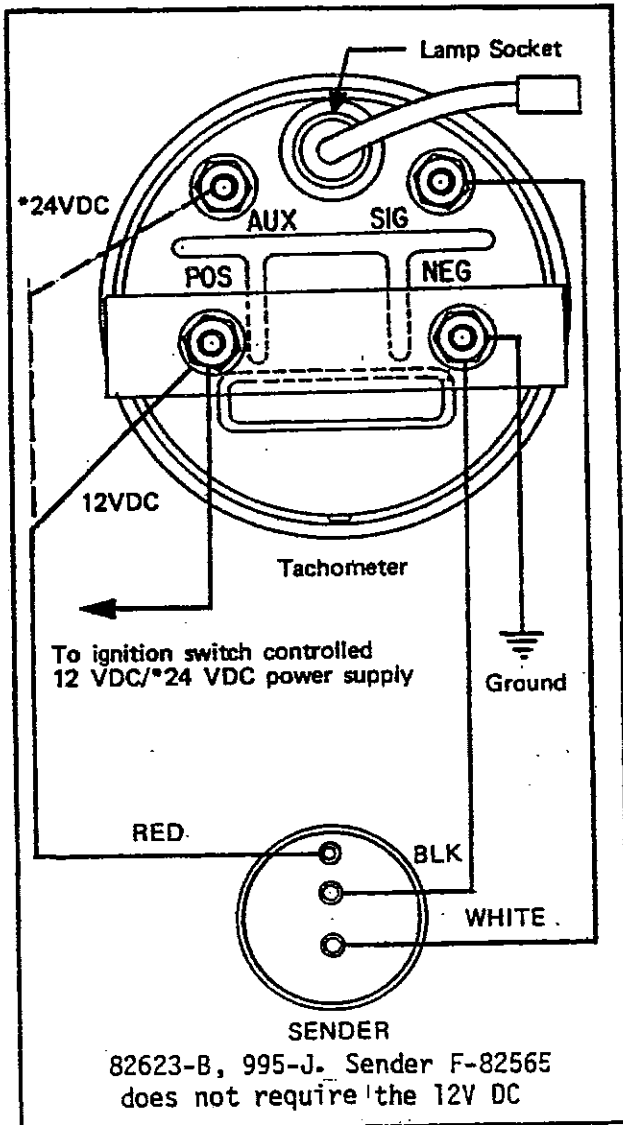

Figure 3
5. Connect a wire from (POS) terminal of tachometer and red sender lead to a 12 VDC ignition switch controlled power source. For *24 VDC models, connect the red sender lead to the (AUX) terminal. See Fig.3.